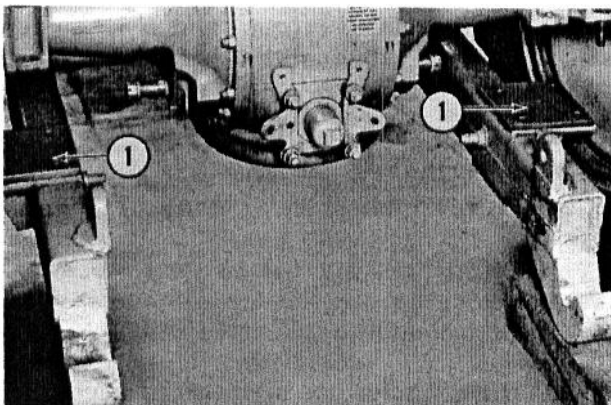

FIG. 2 — LOADER SIDE FRAMES DISCONNECTED FROM REAR AXLE HOUSINGS
- f. Carefully lower rear of loader to the floor as shown in Fig. 2.